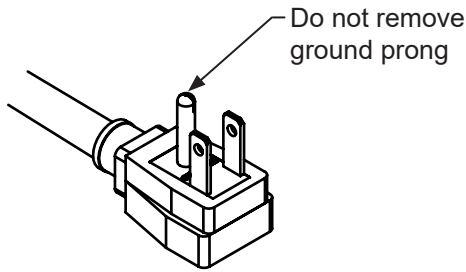

Figure 3
- Do not remove the grounding prong from the power cord. (See Figure 3).